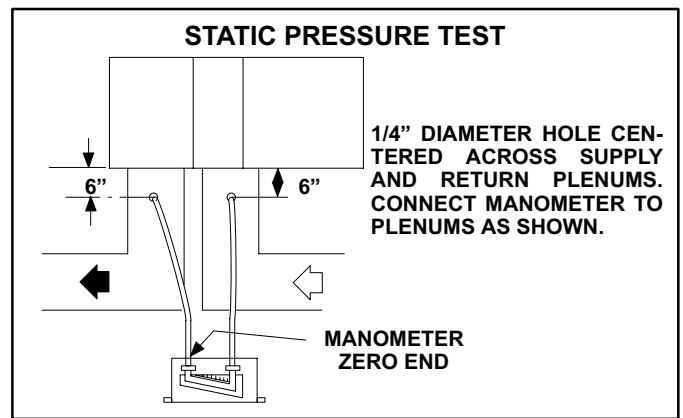

FIGURE 26
- a - Measure tap locations as shown in figure 26 .
- b - Connect other end of manometer to return duct as illustrated in figure 26.